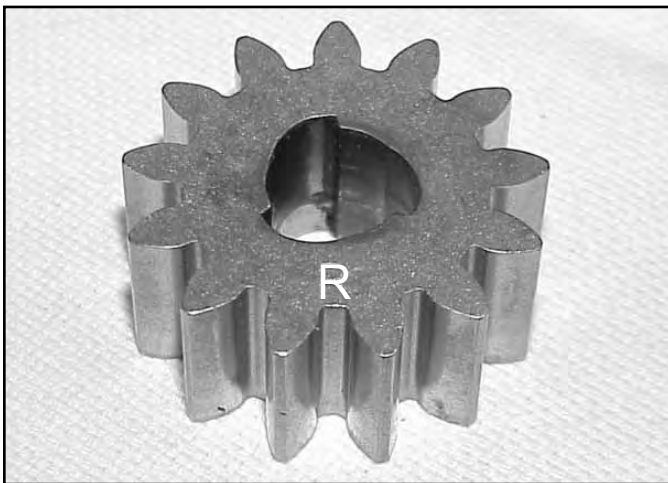

Fig 056
8. The wheel pinion is marked with an R and L for right and left. Identify right and left from the operator's position (Fig. 056). On the right side, the letter R should face out. The letter L should face out on the left side. If the wheel pinions are reversed, the wheels will not drive.